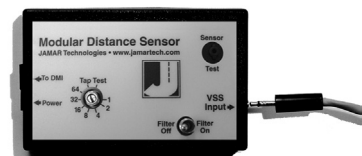

Fig. 4 – VSS Plug-in
4. Plug the connector of the VSS cable into the hole labeled *VSS Input* located on the right side of the MDS, as shown in Figure 4.